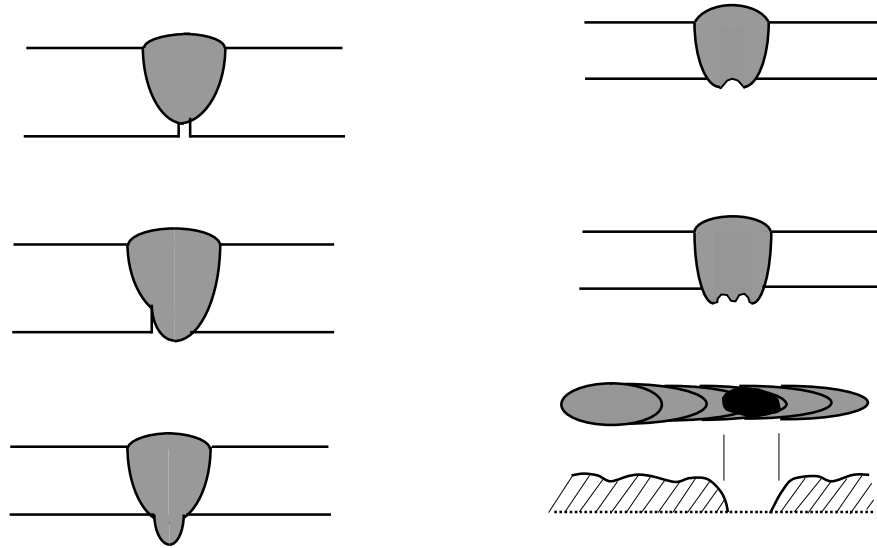

Figure 3.6
3.1.4. Root defects (Figure 3.6)